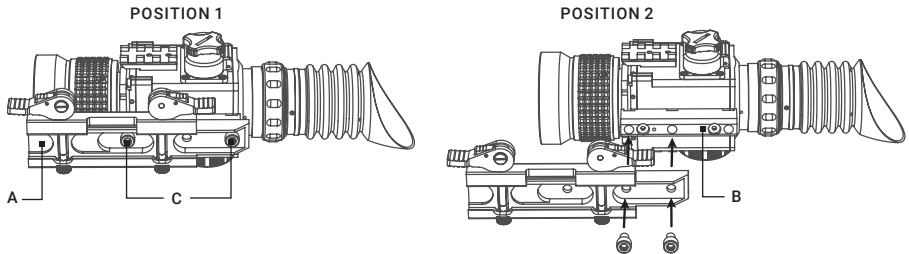

FIGURE 2-3. MOUNT ASSEMBLING
The Secutor comes fully-assembled with a Picatinny/Weaver mount (Figure 2-3).
1. Remove the two screws (C, Figure 2-3) that attach the mount (A, Figure 2-3) to the seating rail (B, Figure 2-3).